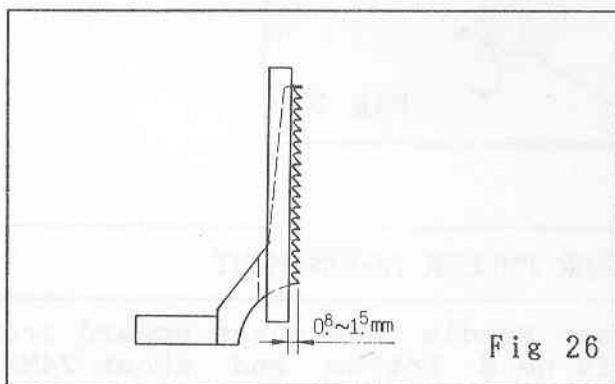

Fig 26
When feed dogs (C) move to the highest position, the distance from the tips of feed dogs to the face of Needle Plate is 0.8-1.5mm. The average is 1.2mm. (Fig. 26)
When the Feed Dogs are at the highest position they should be parallel to Needle Plate surface (Fig. 26).